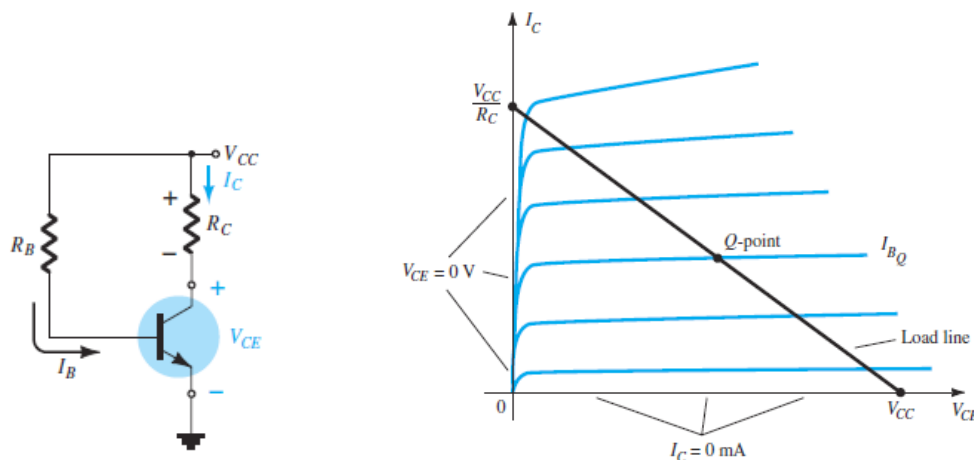

Fig 1.17: Fixed bias circuit and Load line analysis
- **Operating point:** Consider the common emitter circuit as shown below. The transistor EB junction is forward biased by external dc voltage V_{BB} and CB junction is reverse biased by V_{CC} . When the signal is zero, there exists dc collector current I_C and the output voltage V_{CE} . Consider the common emitter circuit as shown in Fig 1.17.